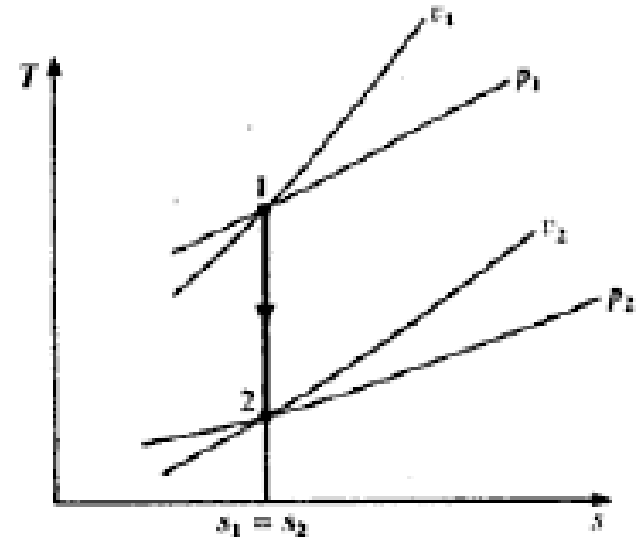

**Fig.4.18: Isentropic process for steam on a T-s diagram**
- An isentropic process for superheated steam expanding into the wet region is shown in Fig. 4.18. Now, using the fact that the entropy remains constant, the end states can be found easily from tables.